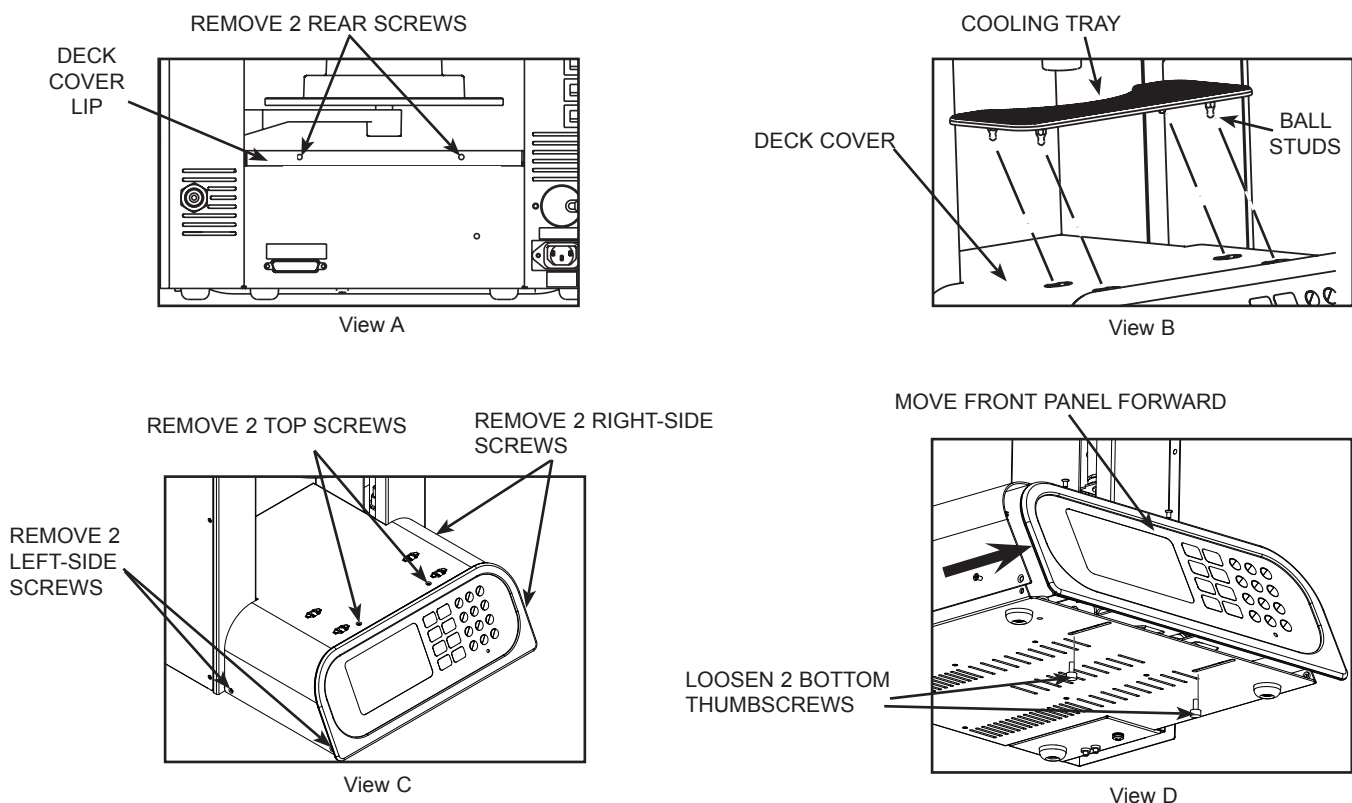

Figure 8. VIP Universal Furnace Deck Cover Removal
4. Remove the top 2 screws securing the Deck Cover to the rear of the unit as shown by Figure 8, View A
5. Remove the cooling tray by lifting it from the Deck Cover as shown by Figure 8, View B
6. As shown by Figure 8, View C
7. Carefully lean the VIP Furnace back slightly to access the 2 thumbscrews located at the bottom of the chassis. Loosen both thumbscrews shown by Figure 8, View D.
2. As shown by Figure 8, View A, install 2 screws hand tightened into the top 2 screwholes of the rear Deck Cover lip installed over the rear panel.
4. As shown by Figure 8, View C
6. Carefully lean the VIP Furnace back slightly to access the 2 thumbscrews located at the bottom of the furnace chassis. Tighten both thumbscrews shown by Figure 8, View D.
7. Return the VIP Furnace flat onto the work table and install the cooling tray on the Deck Cover by snapping the four ball studs into the corresponding clips as shown by Figure 8, View B.